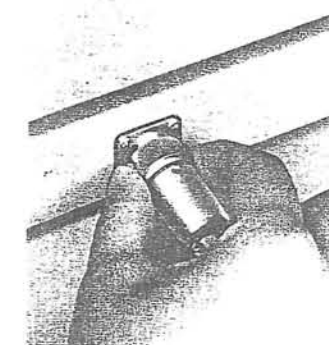

Fig. 7
2. Connect the main unit connector and the power control unit connector using the 5-core cable, after making sure of the pin configuration and key direction. (Fig. 7)